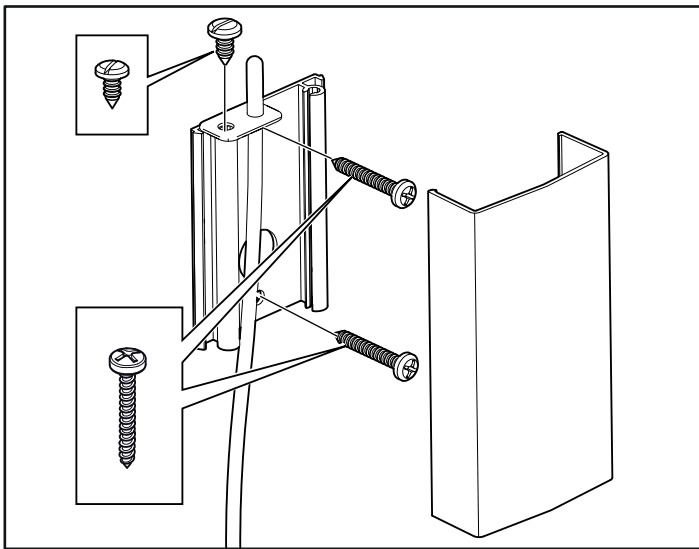
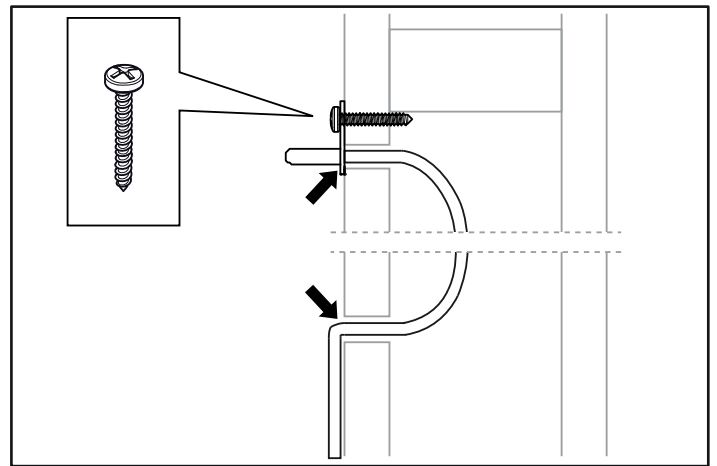

Figure 15: Installing the sensor
Figure 16: Seal any holes
- Install the sensor on the wall see Fig 15. The thermistor wire may also be passed through the wall. Seal any holes in the wall behind the sensor, see Figure 16, page 11. The thermistor wire may be extended outside the sauna using low voltage wire (2-lead).